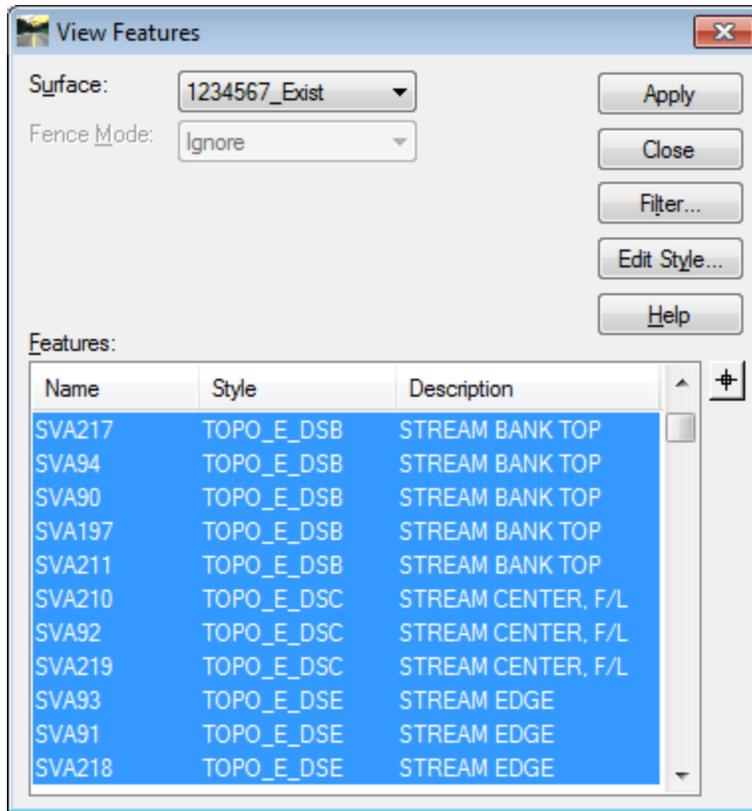

Figure L4-2 View Features
87.	<p>Select and view the Features Styles TOPO_E_DSB, TOPO_E_DSC and TOPO_E_DSE.</p> <ul style="list-style-type: none"> <li>In the View Features dialog, use a combination of the CTRL and/or Shift keys on the keyboard and the Left Mouse button to select the Feature Styles TOPO_E_DSB, TOPO_E_DSC and TOPO_E_DSE as shown in Figure L4-2.</li> <li>Click Apply and Close.</li> <li>Verify your view in MicroStation matches that shown in Figure L4-3.</li> <li>Close the View Features dialog.</li> </ul>